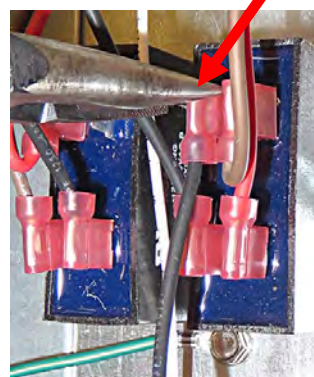

Figure 14
17. Using needle nose pliers remove the loose black wire from the top left connector of the right capacitor (see Figure 14).